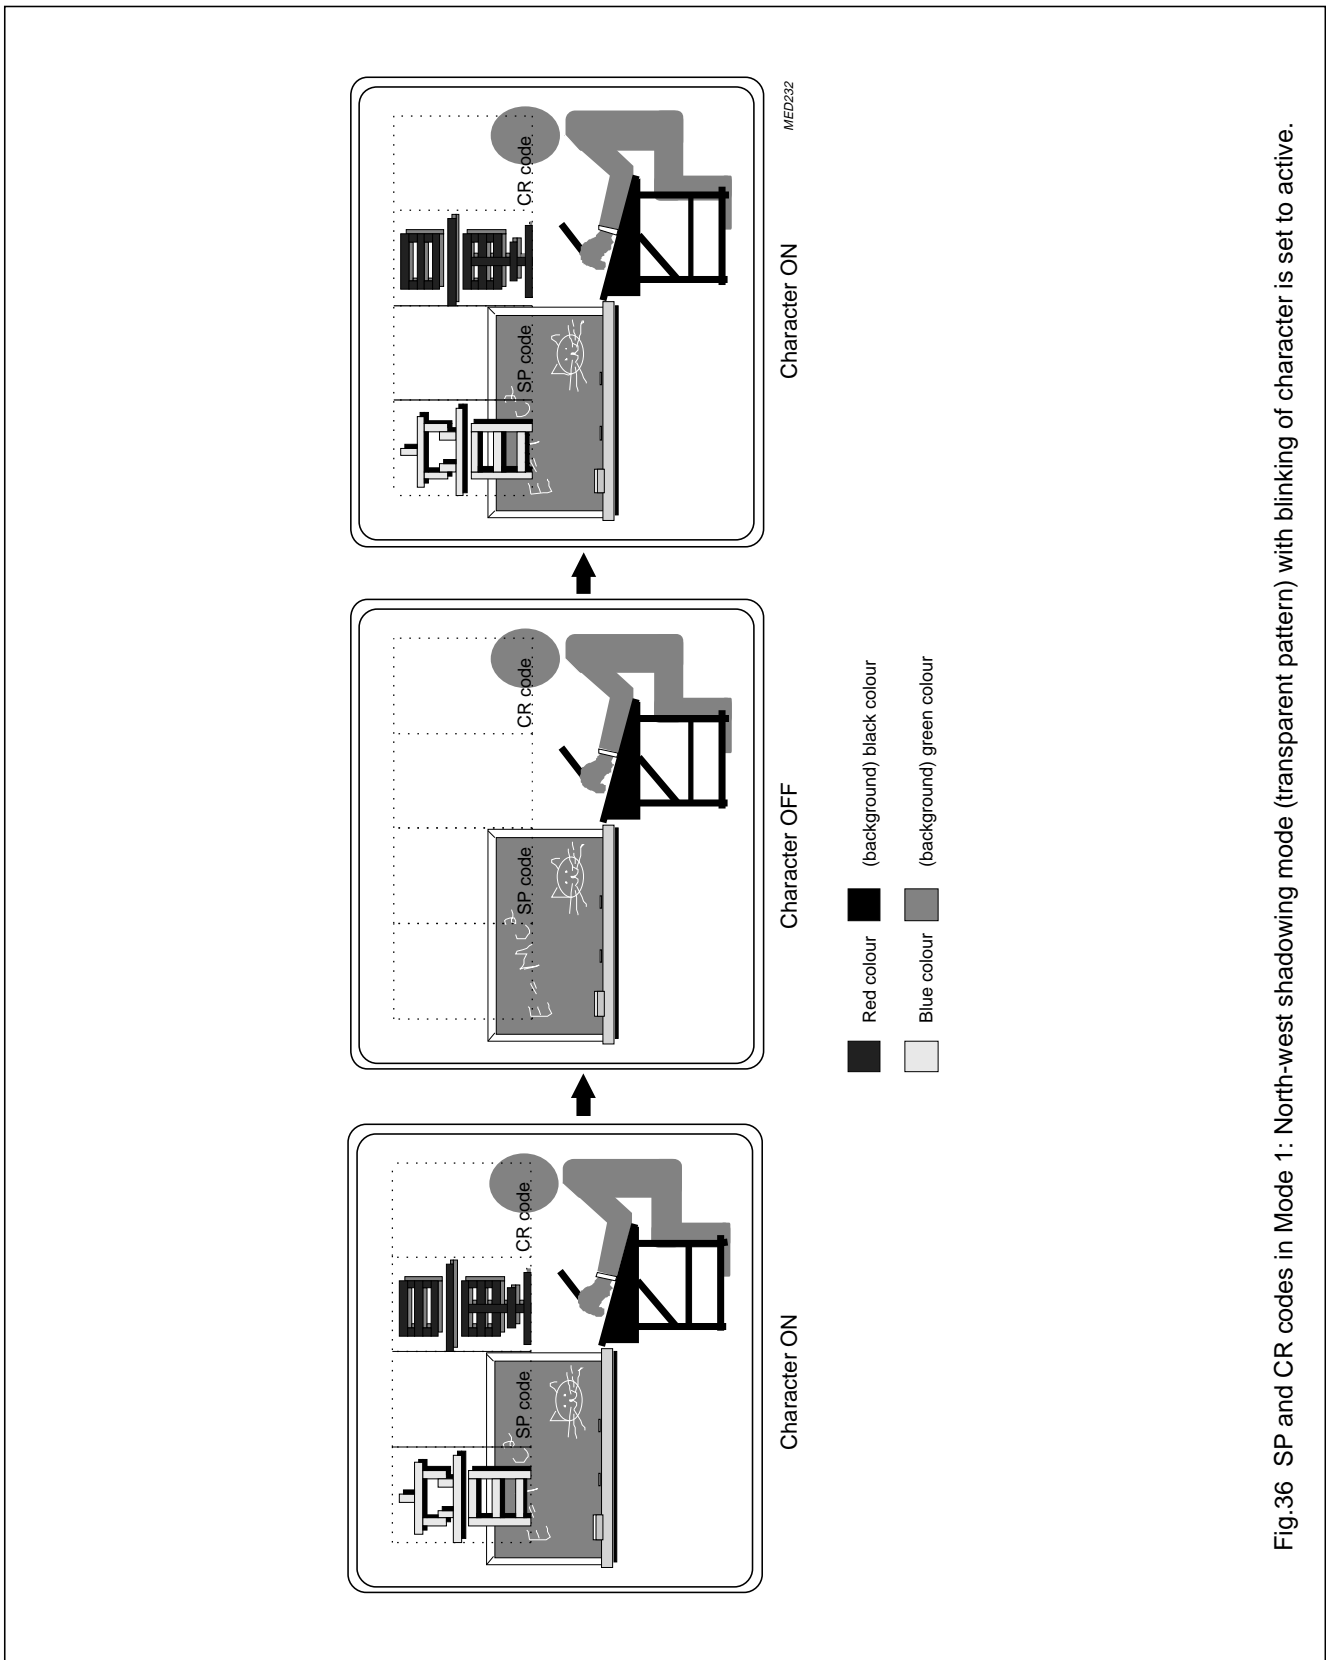

Fig.36 SP and CR codes in Mode 1: North-west shadowing mode (transparent pattern) with blinking of character is set to active.
- Blinking ON are shown in Figs 36, 37, 38 and 39.